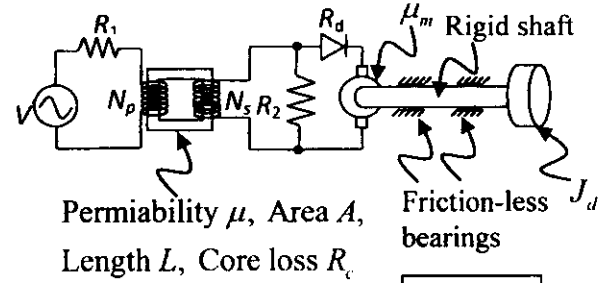

Figure 2
2. Derive an equivalent purely electrical system of the multi-energy domain (electrical, magnetic and mechanical) system shown in Figure 2. The magnetic domain can be referred to the primary or secondary side of the electrical domain of an ideal transformer. The magnetic core of the transformer has cross-section A , effective length or mean core length L , and magnetic permeability μ . R_c is the resistance that represents total magnetic core losses. The DC motor characteristic constant is μ_m . The numbers of turns in the primary and secondary sides of the transformer are N_p and N_s , respectively. The rotor shaft is rigid and J_d is the rotary inertia of the disc including that of the rotor of the motor. R_1 and R_2 are two resistances and R_d is a variable resistance of the diode. Mention the parameters of the equivalent system in terms of the original system parameters.